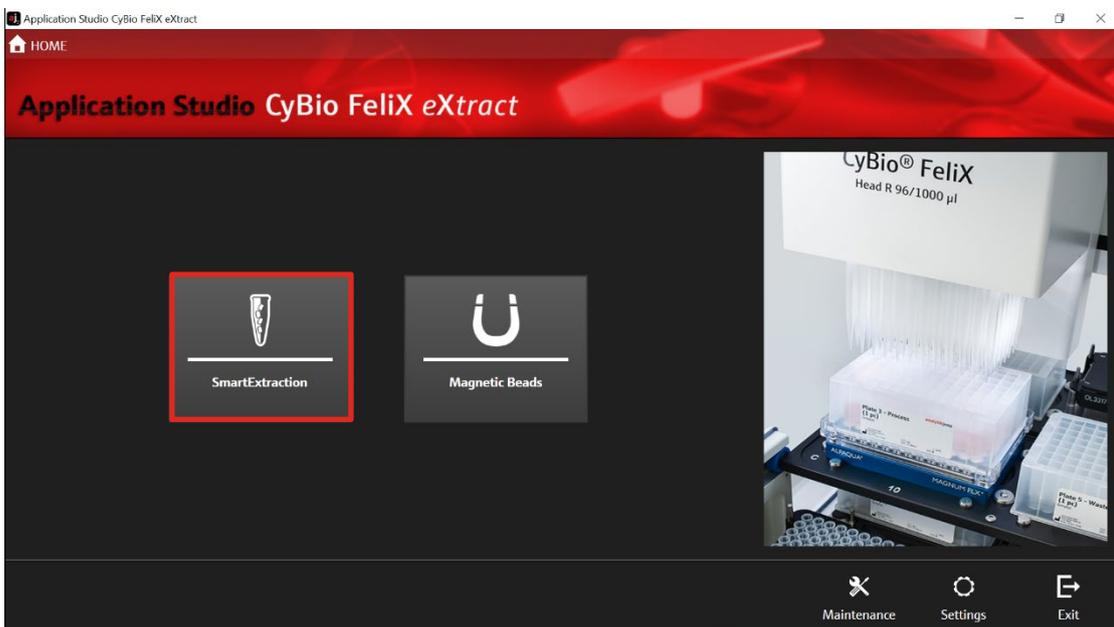

Figure 22: HomeScreen of the AppStudio Felix eXtract. Selection of extraction technology: “SmartExtraction”.
15. Select the extraction technology “SmartExtraction” (→ see Figure 22) and the extraction kit “smart Blood DNA Midi direct prep (a96) – FX” (→ see Figure 23).